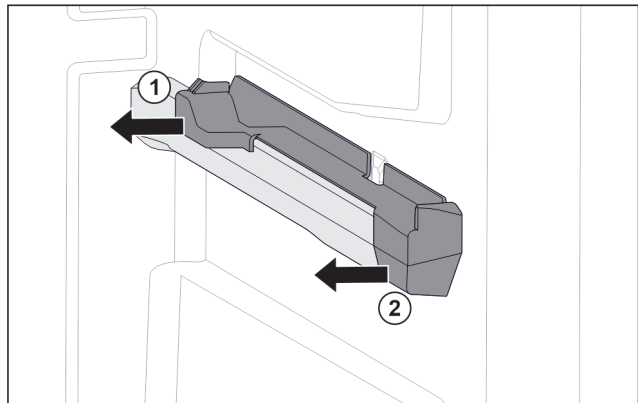

Fig. 98 Attachment on the right moulded rib
- ▶ Pull off attachment at the back sideways. Fig. 98 (1)
- ▶ Pull off attachment at the front sideways. Fig. 98 (2)